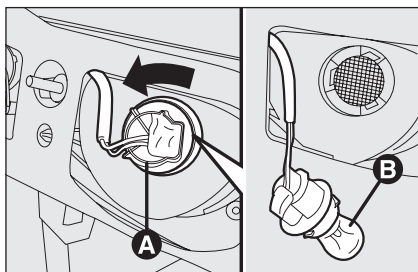

fig. 35
- turn the bulb holder **A-fig. 35** counterclockwise, remove the bulb **B** and replace it;